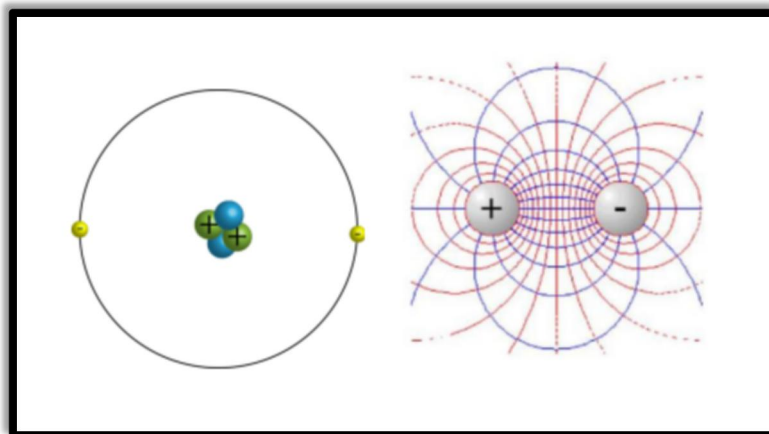

Figure 2.6 Particles of electric charge and electric force
- **Figure 2.6** shows electric charge and electric force :